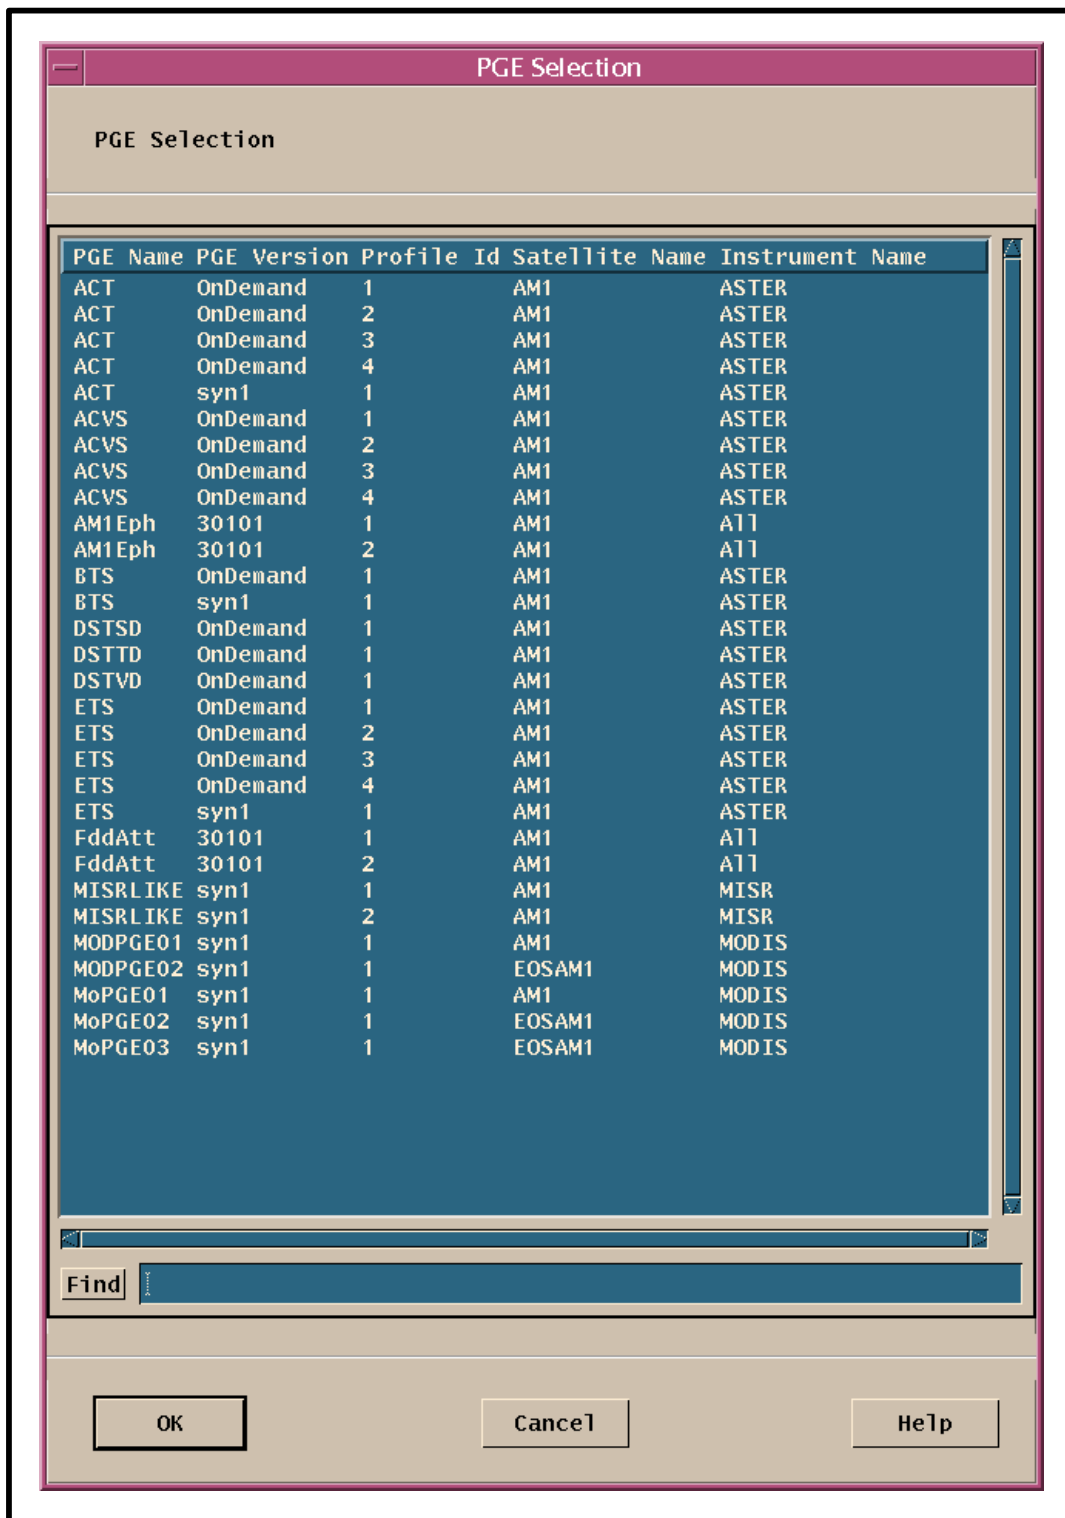

Figure 18. PGE Selection GUI
- The **PGE Selection** GUI (Figure 18) is displayed.